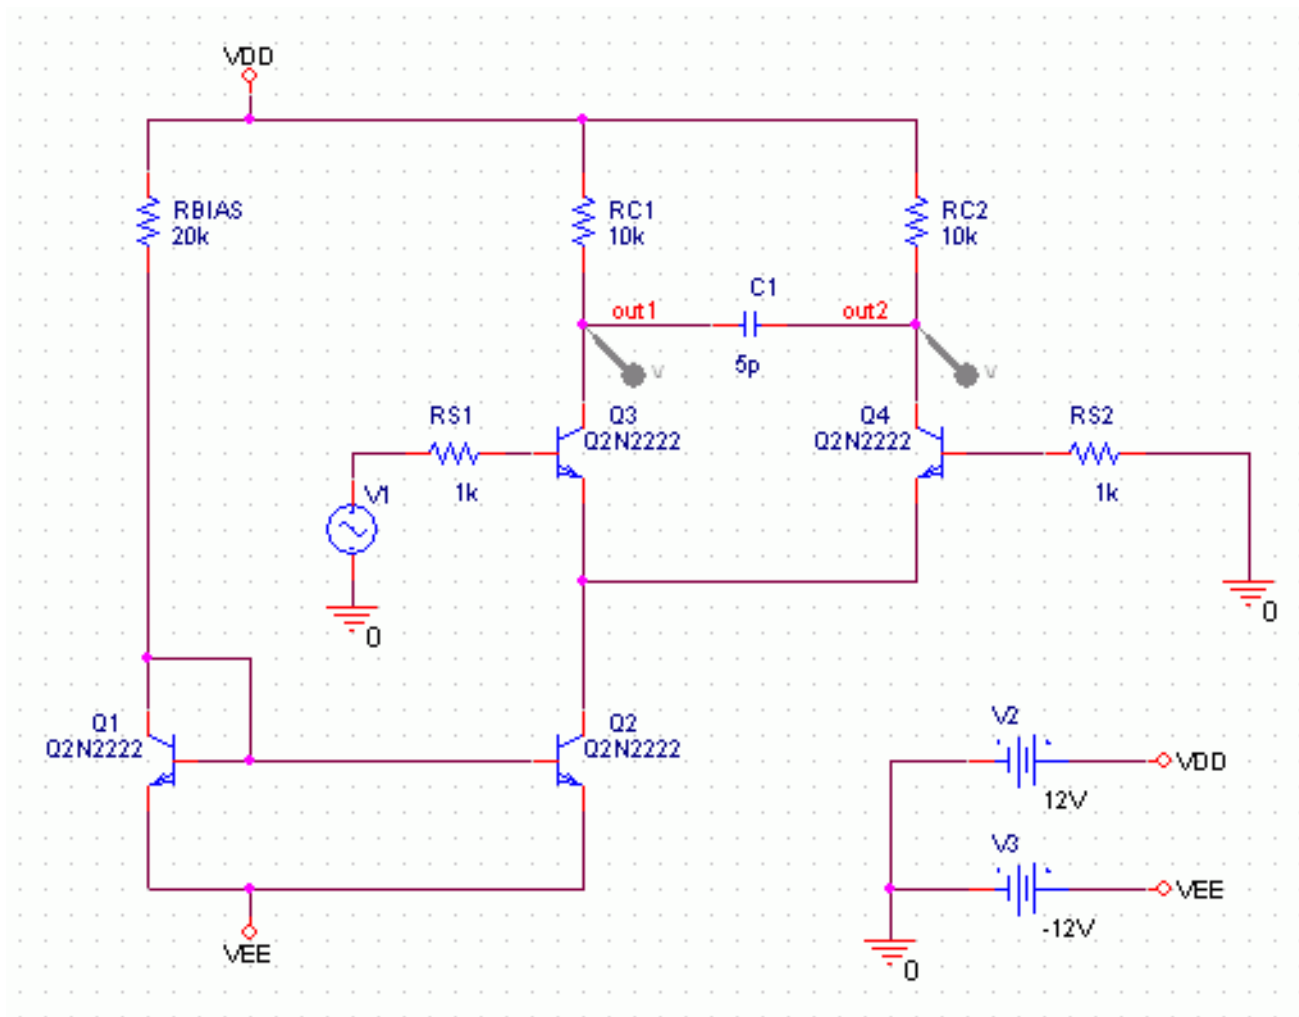

Figure 13-1 Example schematic EXAMPLE.OPJ.
For `EXAMPLE.OPJ` in Figure 13-1 on page 577, you can analyze the effects of variances in the values of resistors RC1 and RC2 by assigning a model description to these resistors that includes a 5% device tolerance on the multiplier parameter R. The steps for adding the 5% device tolerance are given below.
9. In Capture, set up a new Monte Carlo analysis as shown in Figure 13-1 on page 577. The analysis specification tells PSpice